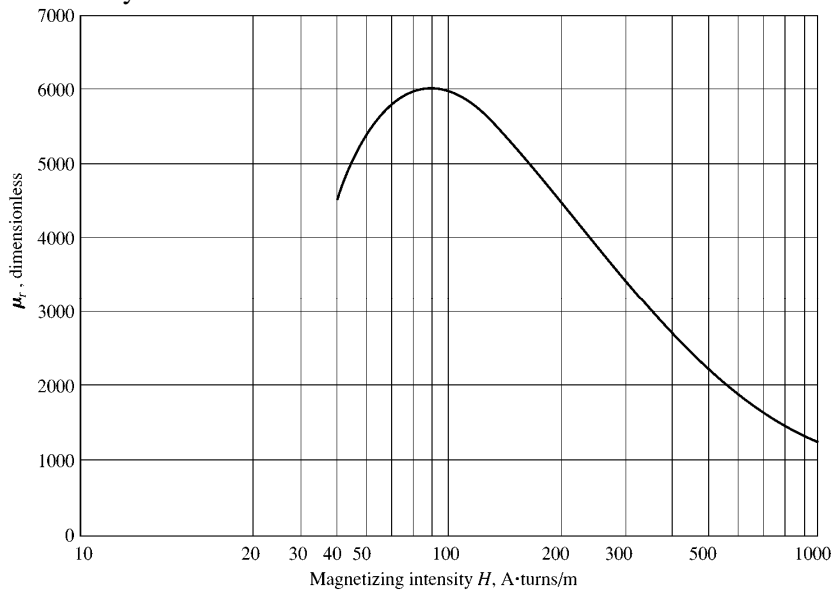

**FIGURE P1-13**
**1-17.** Figure P1-13 shows the core of a simple dc motor. The magnetization curve for the metal in this core is given by Figure 1-10c and d. Assume that the cross-sectional area of each air gap is  $18 \text{ cm}^2$  and that the width of each air gap is 0.05 cm. The effective diameter of the rotor core is 5 cm.